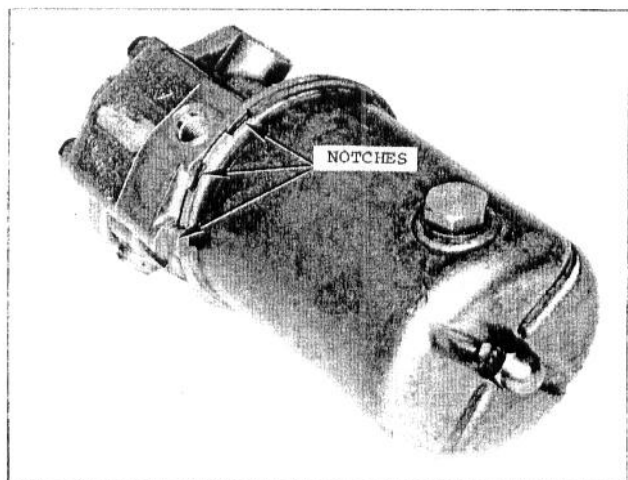

FIG. 8 — RESERVOIR LOCATING NOTCHES
8. Position reservoir on pump body as shown in Fig. 8, and install washer and acorn nut.